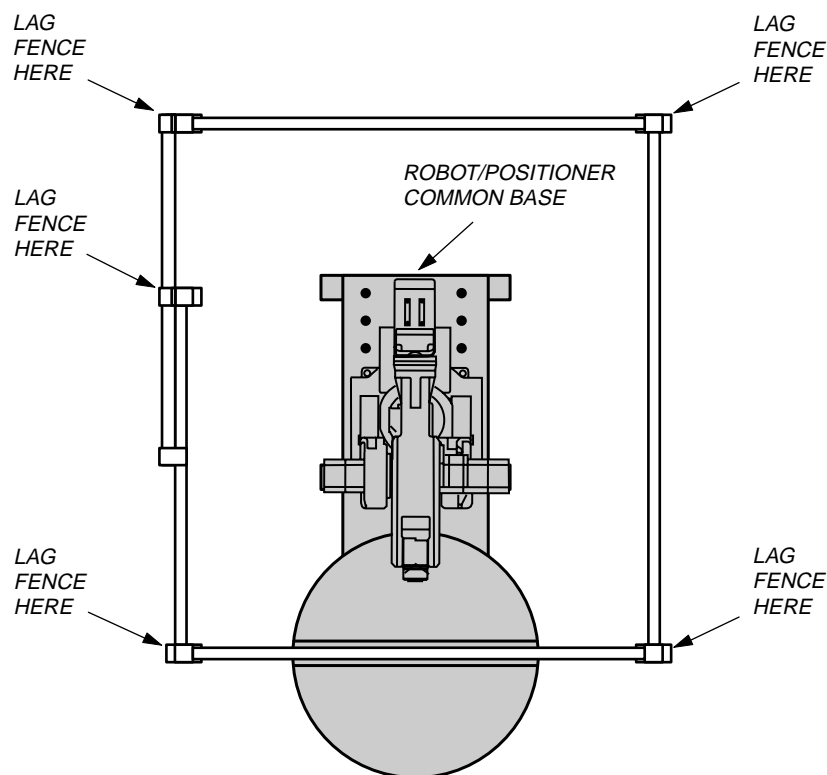

Figure 4-15 Lagging Cell Walls to Floor
14. Close door and install remaining door rail clamp (see Figure 4-15).
28. Use bottom cell door guides (see Figure 4-15) as templates to mark location of two mounting holes.